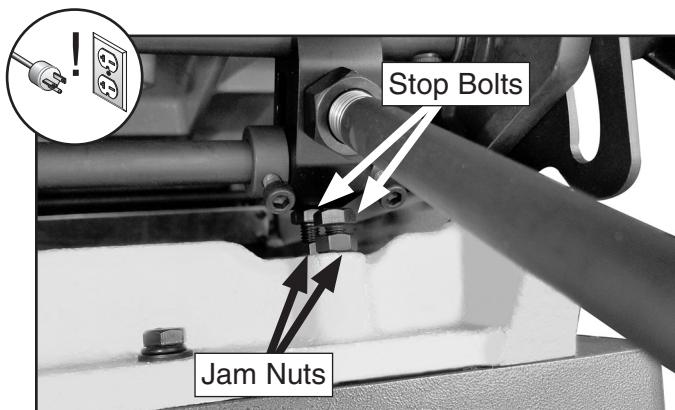

Figure 44. Location of outfeed table stop bolts and jam nuts.
3. Loosen outfeed table lock located at front of machine, and loosen jam nuts and stop bolts located under outfeed table (see **Figure 44**).